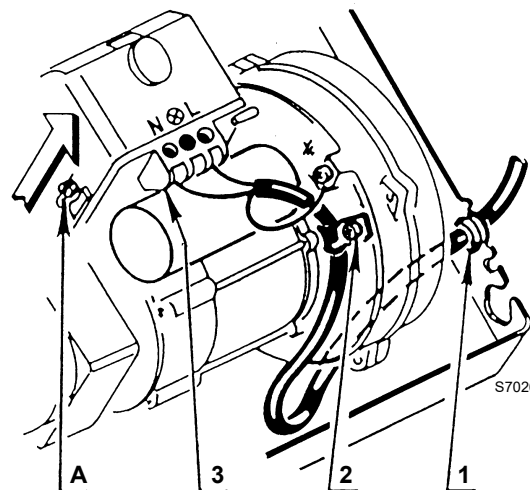

Fig. 14
To remove the control-box from the burner, loosen screw A)(Fig. 14) and pull towards the arrow.
**Run of the electrical cable (Fig. 14)**